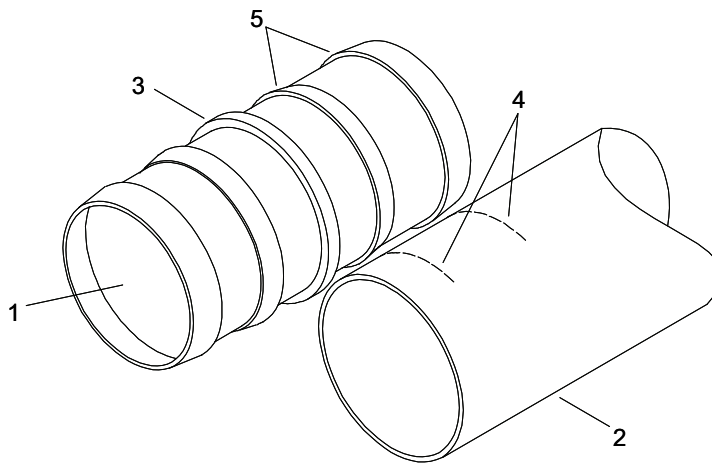

Figure 22. Hose Assembly Repair.
10. Using the hose splice (Figure 22, Item 1) as a guide, align the cut end of one section of the hose assembly (Figure 22, Item 2) with the machined stop (Figure 22, Item 3) in the center of the hose splice (Figure 22, Item 1).
11. Using a marking pen, mark two lines (Figure 22, Item 4) on the hose assembly (Figure 22, Item 2) where the hose barbs (Figure 22, Item 5) will be located.